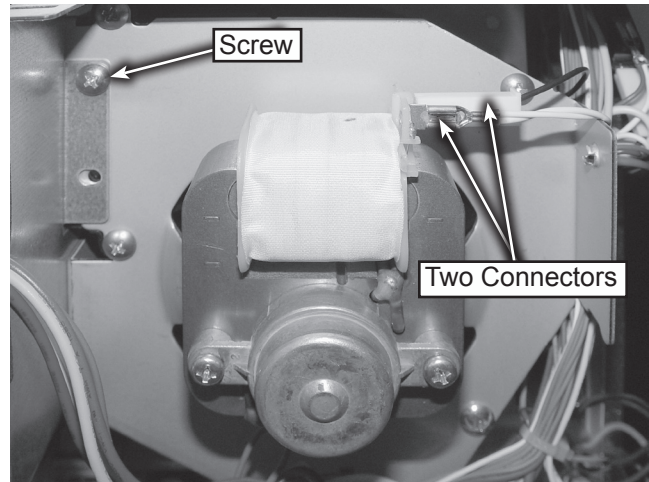

Figure 2
6. Disconnect two connectors, white wires from the front terminal and black wire from the back terminal, see figure 2.
7. Remove one screw from the inside of fan motor angle, this will release the housing and allow the fan motor assembly to be removed, see figure 2.